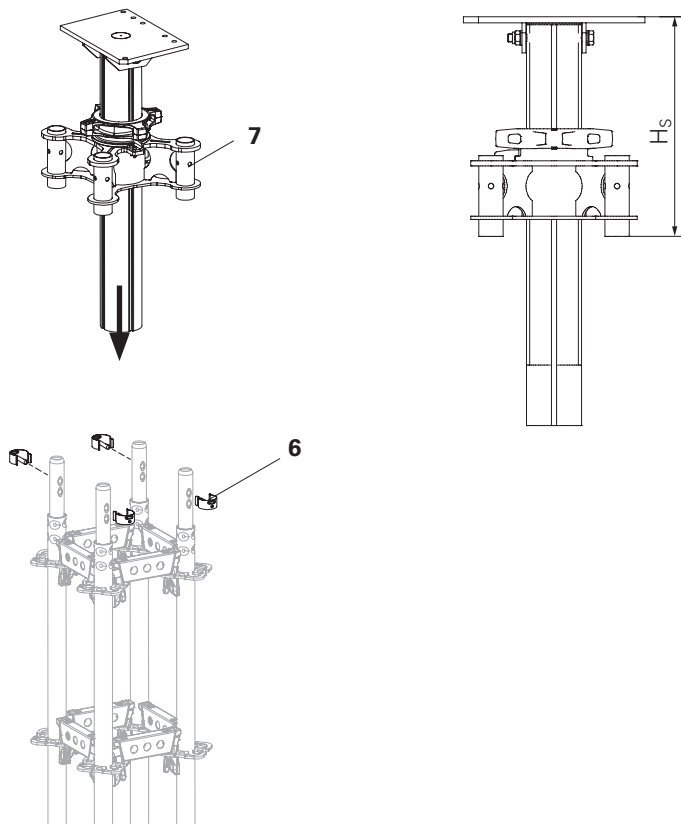

Fig. A1.06
2. Tightly connect the Standards UVR-2 and the head spindle with locking pins \varnothing 48/57 (**6**). (Fig. A1.06)